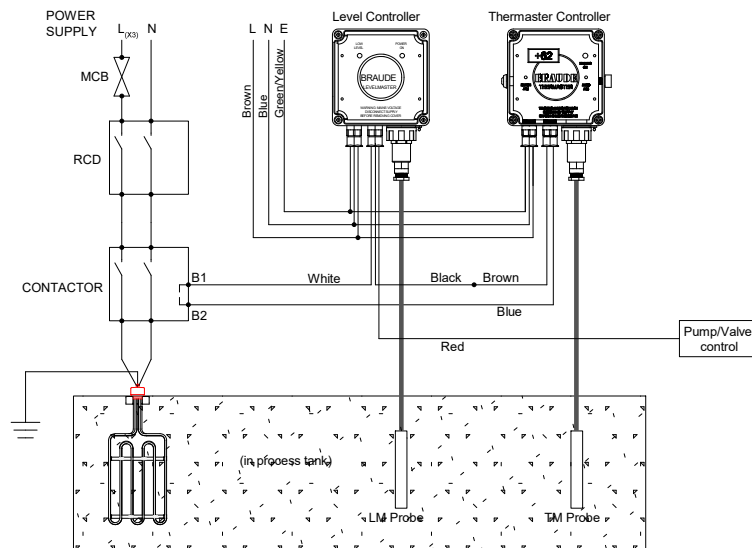

Fig 3 - Thermaster controller connected to level controller
- b) For applications involving the use of another controller, such as level or timer connect as in Fig. 3. One of the controllers must have a volt free relay.